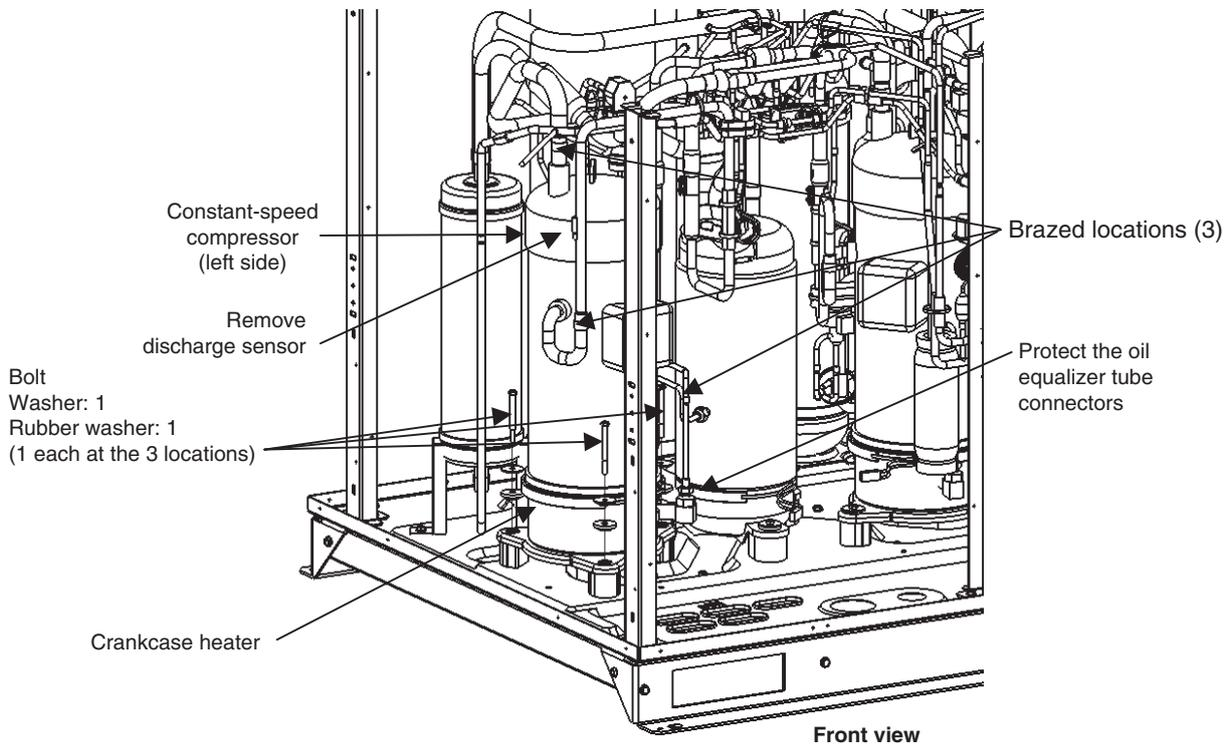

Fig. 23
- (7) Disconnect the 3 brazed locations shown in the figure 23.
- (8) Pull the compressor toward you.